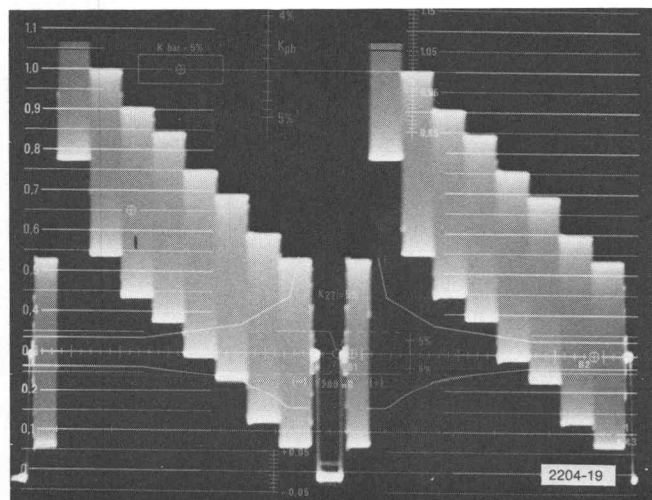

Fig. 1-19. 2 lines of Color Bar signal with Bell filter switched out.
10. BELL: Set the BELL switch to OUT and observe that the Waveform Monitor display now shows constant amplitude subcarrier for both lines. See Fig. 1-19.